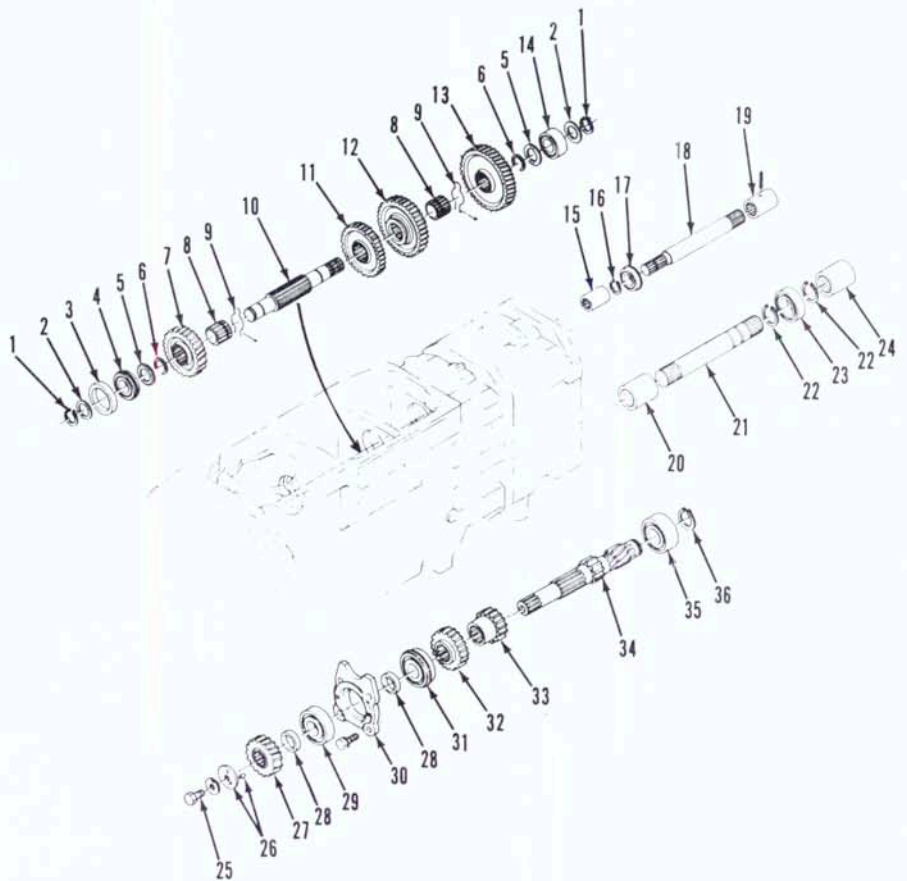
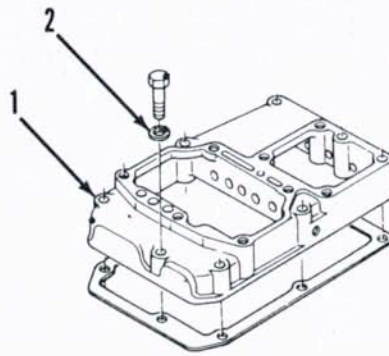
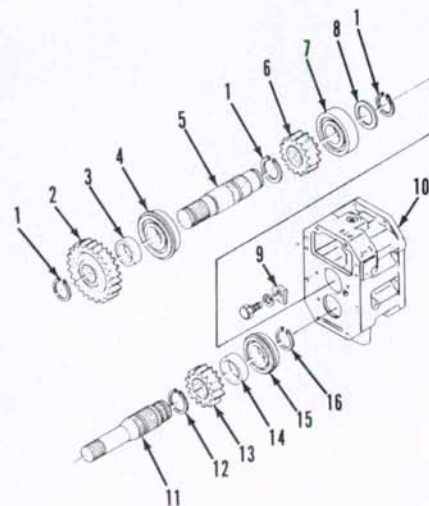

Fig. 115—Exploded view of gears and shafts located in front transmission housing on Model L355.
Fig. 117—A seal washer is used on shifter housing front mounting cap screw.
Fig. 116—Exploded view of gears and shafts located in center case on Model L355.
84. OVERHAUL. To disassemble main transmission, first shift gears into neutral position and remove shifter housing. Withdraw range countershaft and pto countershaft from rear of transmission housing. Shift sliding gears into two speeds to lock mainshaft, then remove cap screw, washer, gear (27—Fig. 115) and spacer (28) from front of mainshaft (34). Remove front bearing (29) and bearing case (30) using a suitable puller. Remove retainer clips (9), front snap ring, spacer (3), and retaining ring (6) from countershaft (10). Tap countershaft rearward from housing and lift out gears. Tap mainshaft rear-
To disassemble center case, remove snap ring, gear (2—Fig. 116) and spacer
(3) from front of pto gear shaft (5). Remove bearing retainer (9), then tap shaft rearward out of case. Remove bearing retainer, then tap pto countershaft (11) out front of case. Remove pto shift rail and fork.
To reassemble transmission, reverse the disassembly procedure while noting the following: Be sure pto gear (6—Fig. 116) is installed with chamfered side forward. Make certain oil grooves in thrust washers (5—Fig. 115) are toward splined sleeves (8). Tighten mainshaft cap screw to a torque of 50-70 N·m (36-52 ft.-lbs.) Be sure seal washer (2—Fig. 117) is installed on shift housing (1) in proper location. Tighten seal washer cap screw to a torque of 12-20 N·m (9-15 ft.-lbs.) and remainder of mounting cap screws to 24-27 N·m (18-20 ft.-lbs.).